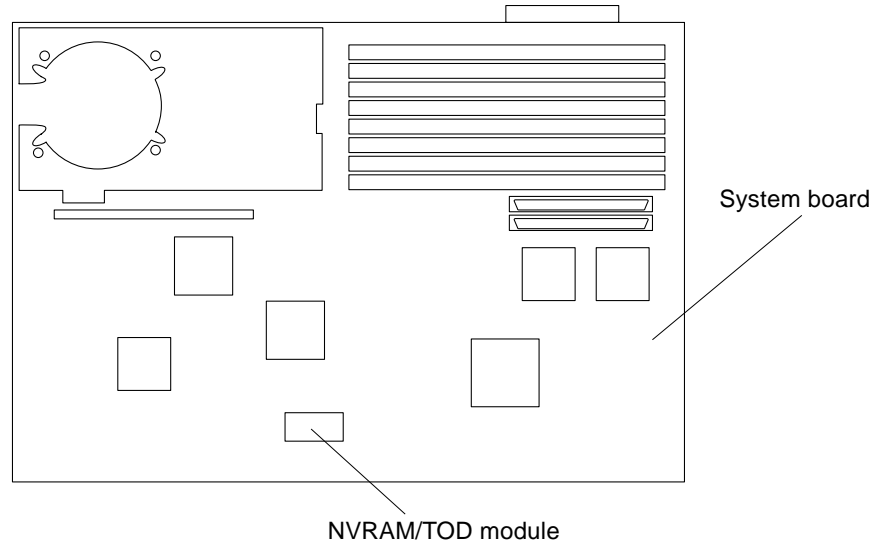

Figure 3-9 NVRAM/TOD Socket Position
1. Locate the NVRAM/TOD socket on the system board (Figure 3-9).